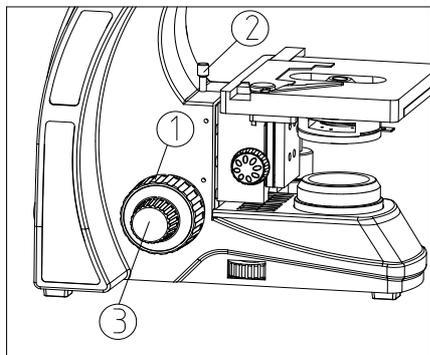

Fig. 10
2. Observe the right eyepiece with right eye. Rotate the coarse focusing knob ① until the image appears (see Fig. 10).
3. Rotate the fine focusing knob ③ for clear details.
- ★ The position screw ② can stop the objective touching the clips.